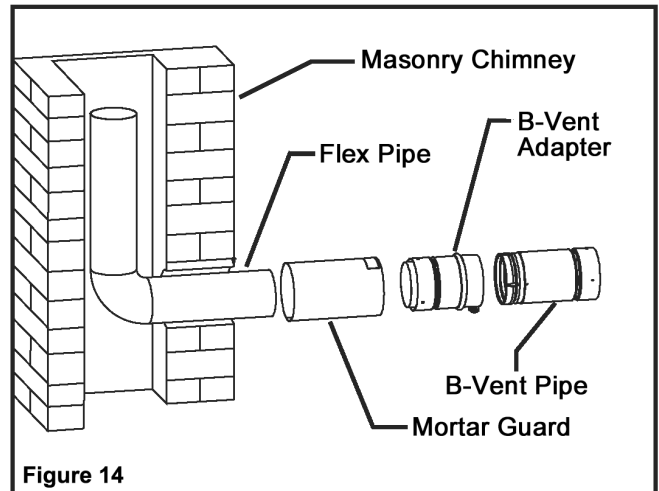

Figure 14
2. The Flexible Liner should be installed such that it extends at least 2" beyond the Mortar Guard, allowing sufficient length for attaching the universal B Vent adapter to the flex (see Figures 14 and 15).